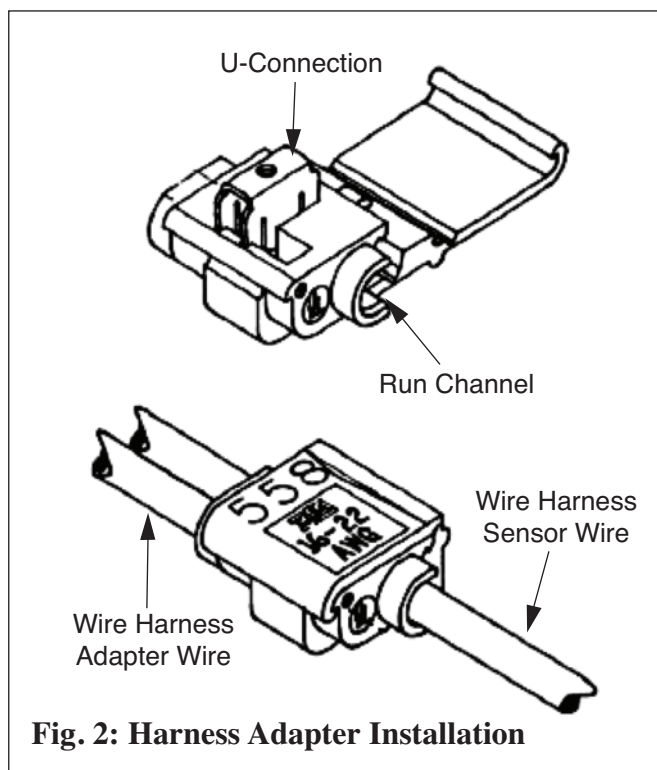

Fig. 2: Harness Adapter Installation
- Place the unstripped wire harness wire into the run channel of the Wire Tap and close the side cover. See Figure 2.